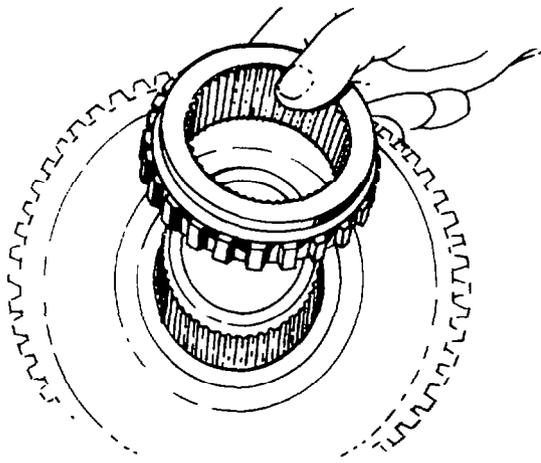

Fig. 200 — Installing First Gear Sliding Clutch
- h. Install the first gear sliding clutch on second/third sliding clutch (see fig. 200).